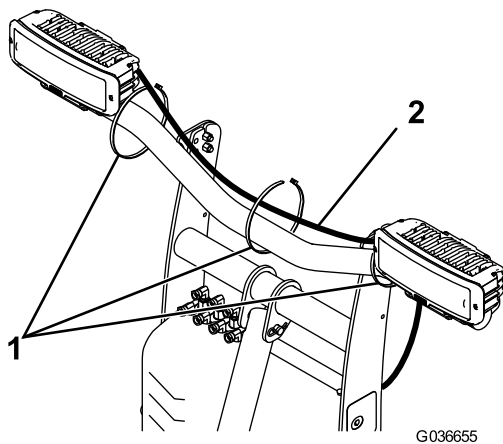

Figure 16
- Insert the headlight connectors on the wire harness to the back of the headlight housing (Figure 16). The short length connects to the left headlight and the long length connects to the right headlight.
7. Secure the wire harness to the light bar using 3 cable ties as shown in Figure 16.